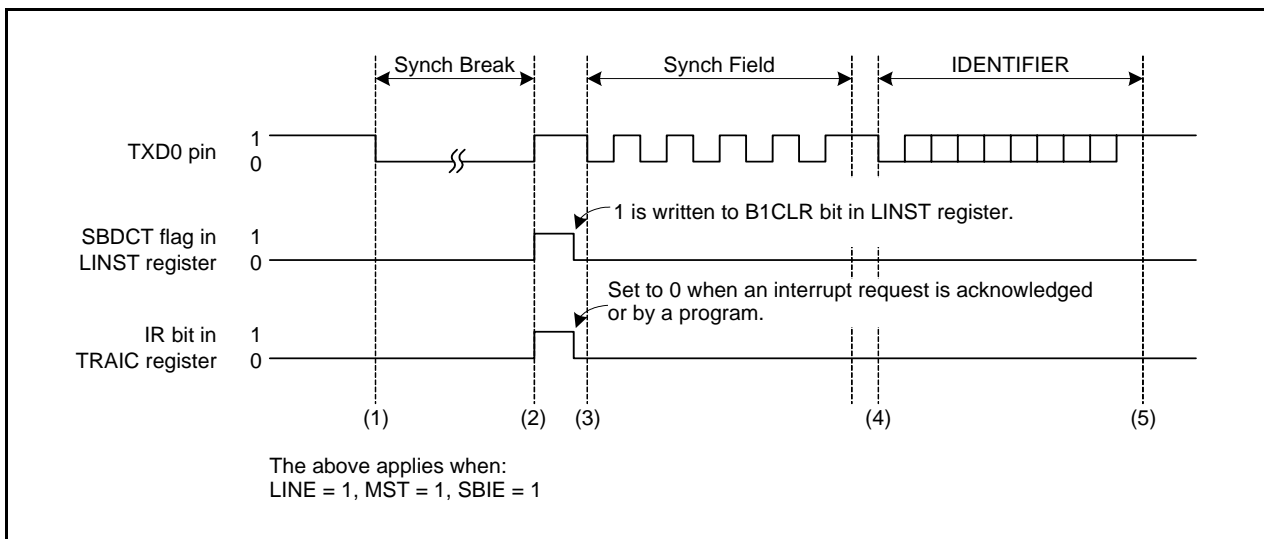
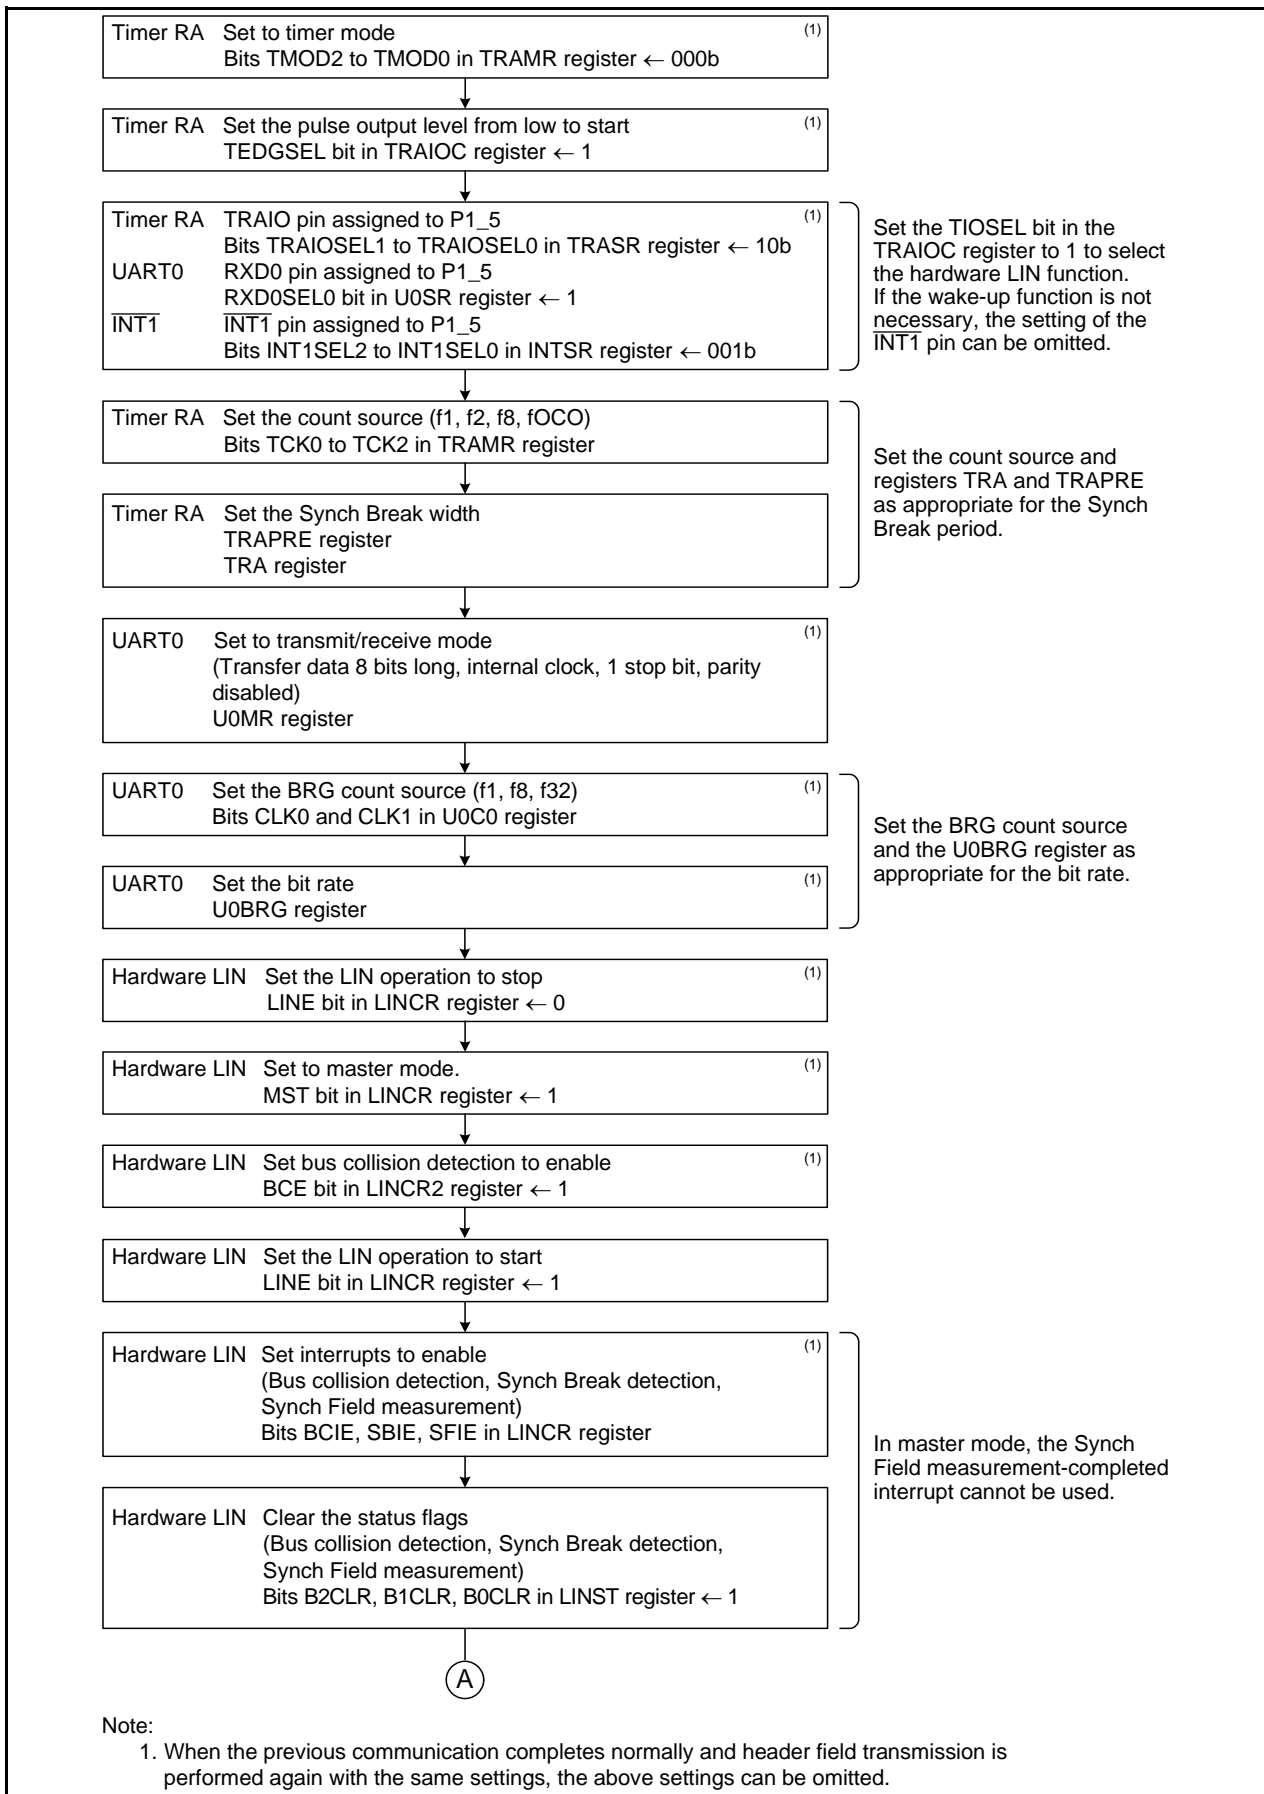
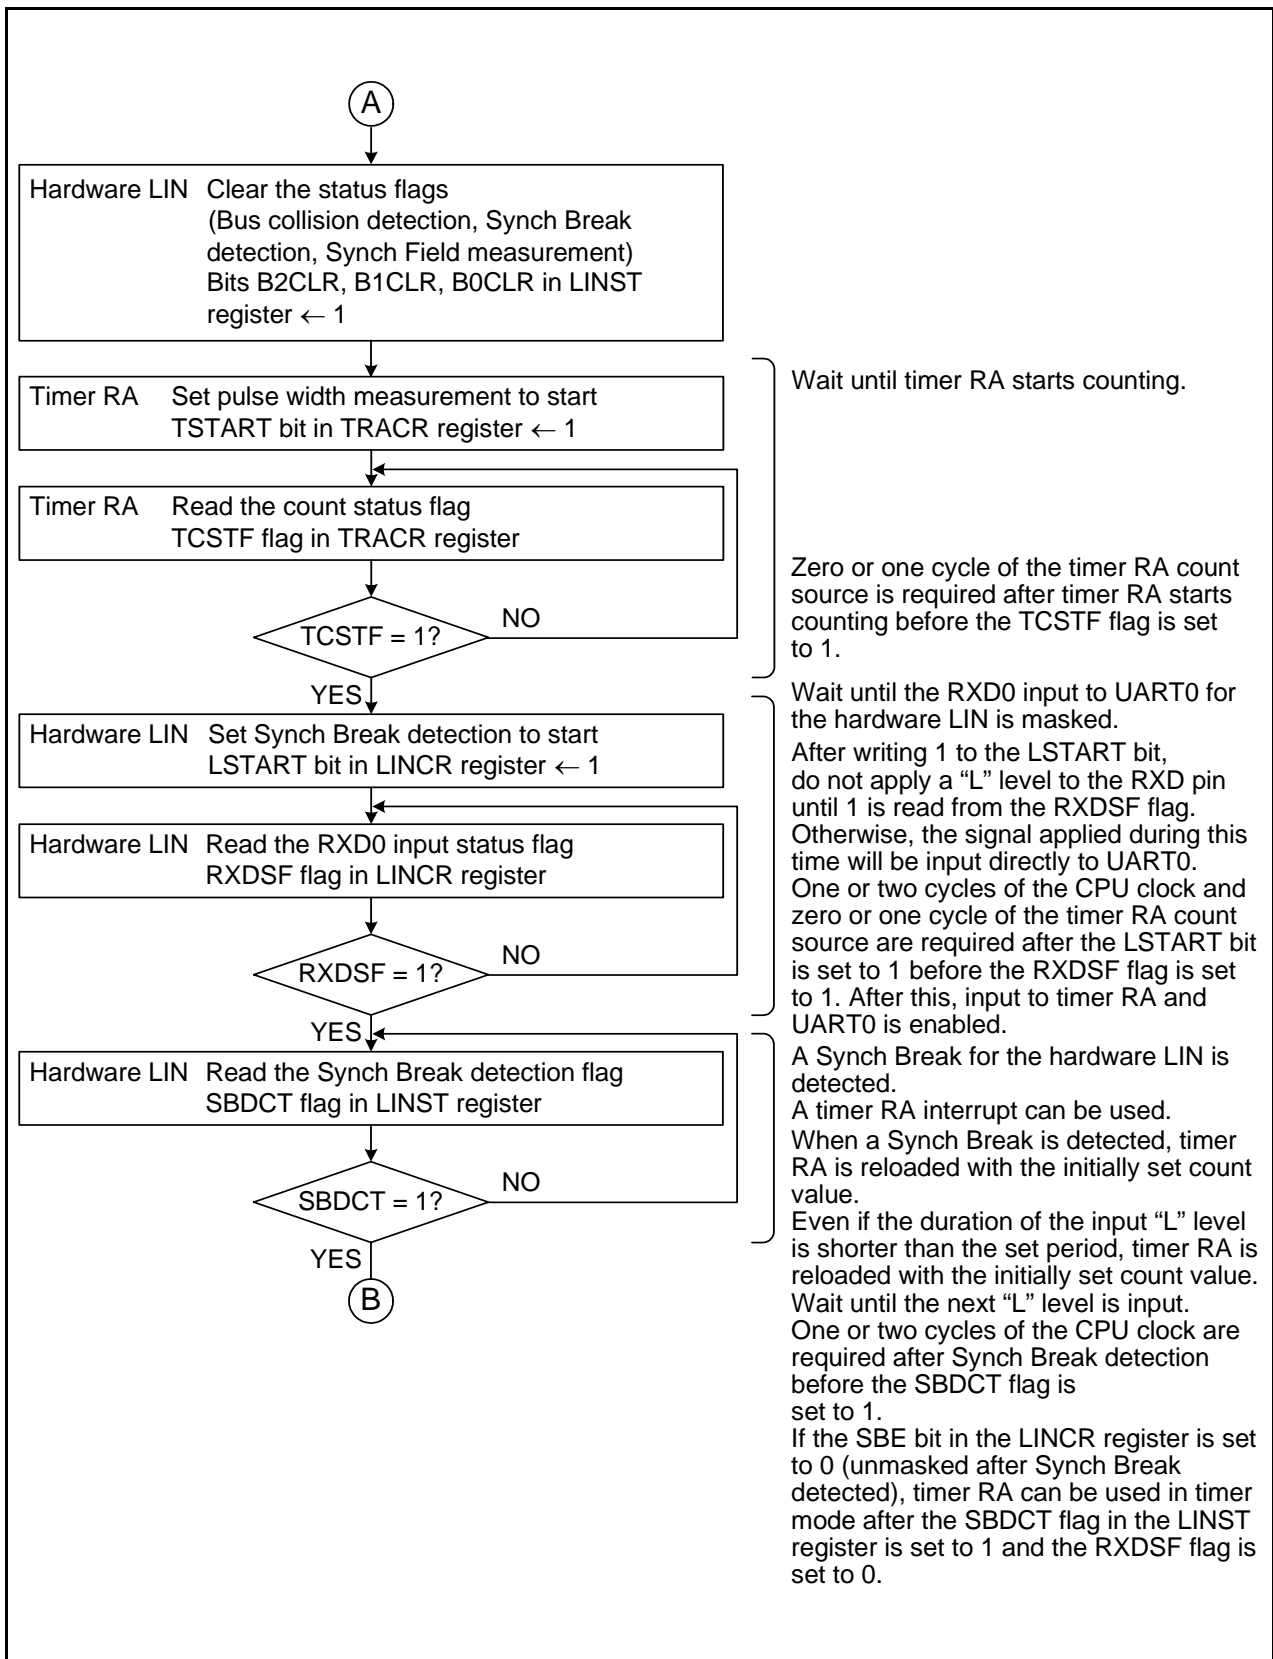

Figure 26.2 Operating Example during Header Field Transmission
Figure 26.3 Header Field Transmission Flowchart Example (1)
Figure 26.7 Header Field Reception Flowchart Example (2)
3. Inputs to timer RA and UART0 are disabled immediately after the LINE bit is set to 1 (LIN operation starts). (Refer to **Figure 26.3 Header Field Transmission Flowchart Example (1)** and **Figure 26.7 Header Field Reception Flowchart Example (2)**.)
Figure 26.2 shows an Operating Example during Header Field Transmission in master mode. Figures 26.3 and 26.4 show Examples of Header Field Transmission Flowchart.